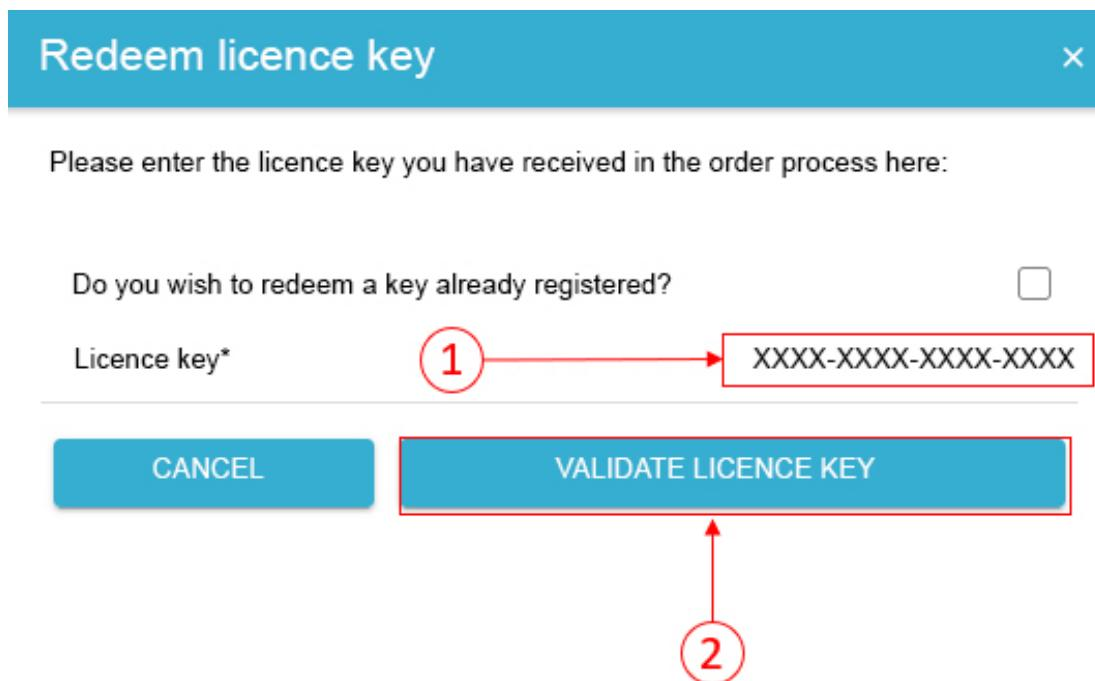

Figure 26. App installation — Variant 2: Step 5b
- Figure 26. App installation — Variant 2: Step 5b